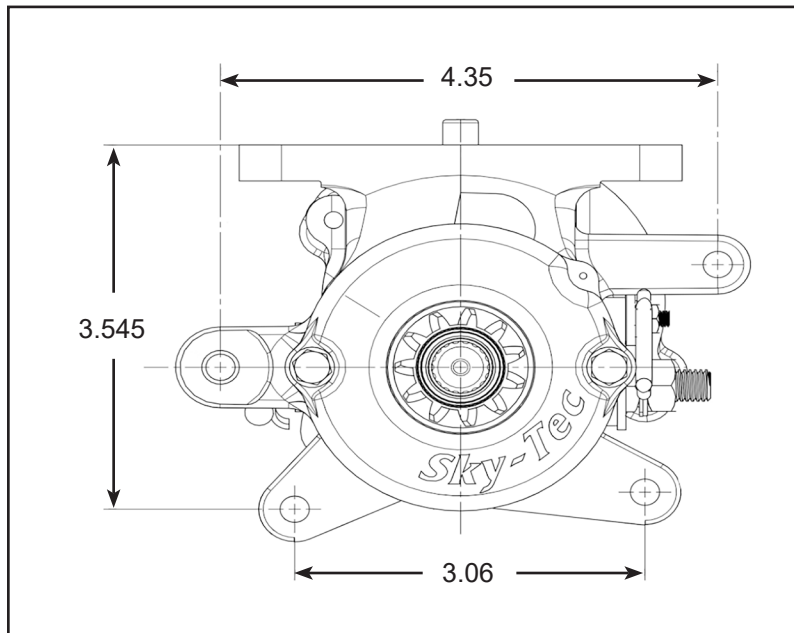

Figure 2.2D – 149NL, 149NL/EC, 149NLR,
- F. Basic dimensions for the 149NL, 149NL/EC, 149NLR, and 149NLR/EC series starters are found in Figures 2.2D thru 2.2F.